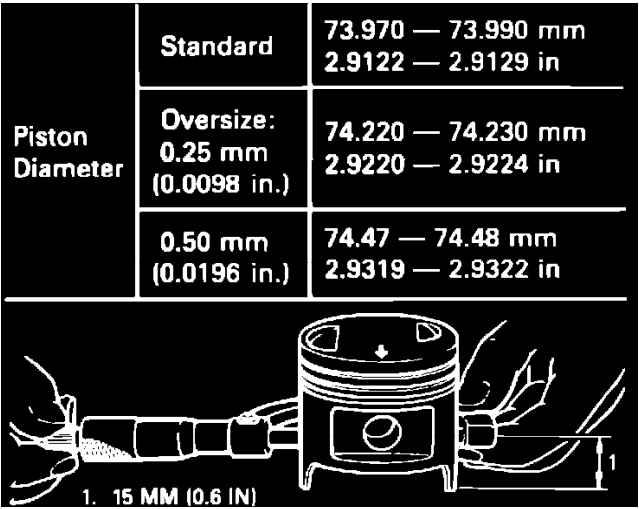

Fig. 17 Measuring piston diameter
- 2. Measure piston diameter at a height of .59 inches (15 mm) from piston skirt end in perpendicular direction to piston pin, **Fig. 17**.